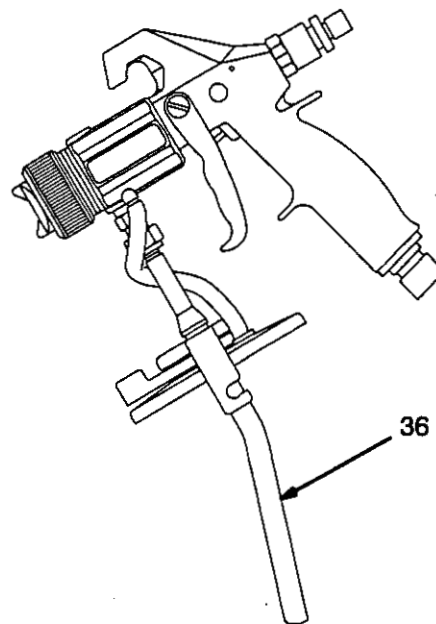

Fig. 16
For prolonged downward spraying, make sure the fluid tube (36) is positioned as shown in Fig. 16.